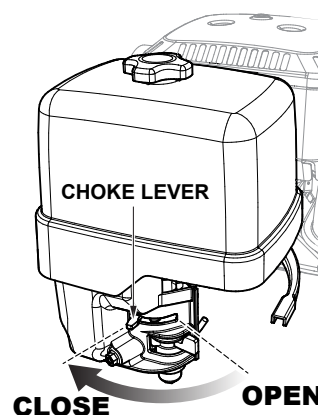

Figure 11. Engine Choke Lever (Closed)
4. If starting a cold engine, place the **engine choke lever** in the **CLOSED** position (Figure 11).